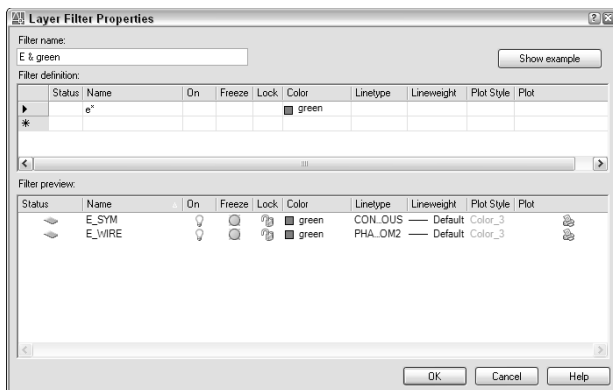

Figure 11-14: The Layer Filter Properties dialog box.
To create a properties filter, click the New Property Filter button to open the Layer Filter Properties, shown in Figure 11-14. Notice that the Filter Definition pane at the top has the same columns as the Layer Properties Manager.
- ♦ To specify a filter for a named property, such as the name or linetype of a layer, you can use wildcards. The two most common wildcard characters are * (asterisk), which replaces any number of characters, and ?, which replaces any single character. Figure 11-14 shows the layer name filter set to e*. The color is also specified as green. Therefore, the filter includes only layers whose names start with the letter E and are green.